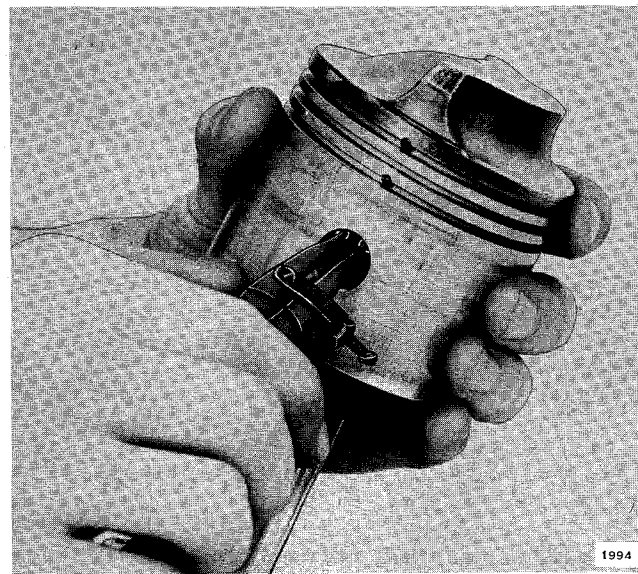

Figure 5-16. Removing Wrist Pin Retaining Ring
- h. Remove wrist pin retaining ring, using Truarc No. 1 pliers (Special Tool #303857). See Figure 5-16.